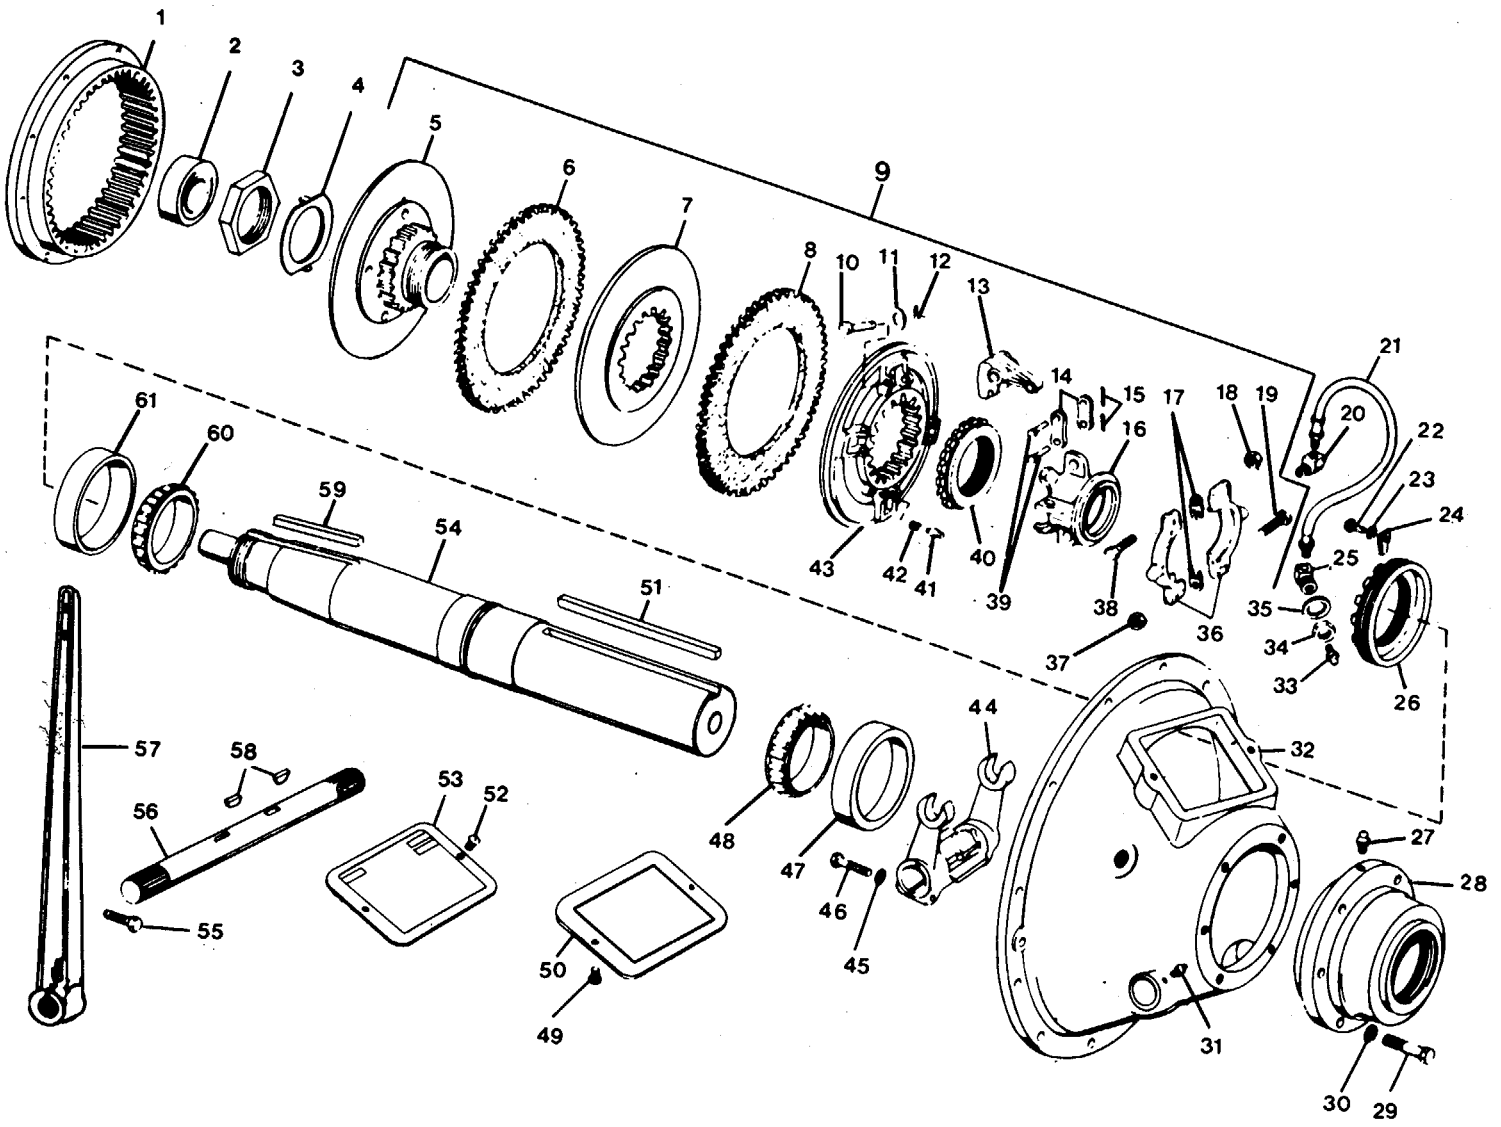

FIGURE 4-25. Friction Clutch (Power Takeoff) Assembly. (SP-2-14).
**DISASSEMBLY.** (Refer to FIGURE 4-25 for reference numbers.)
- a. Support the clutch housing (32) on a work bench with wooden blocks. Have the clutch end facing upward.
- b. Use a standard bearing puller, and remove the pilot bearing (2) from the clutch shaft (54).
- c. Remove the jam nut (34) and lockwasher (35) from the hose fitting (25) located in the clutch housing (18). Push fitting (25) and hose (21) into the clutch housing (32).
- d. Straighten the bent portion of the hub nut lockwasher (4) from the hub nut (3). Remove the hub nut (3) and the lockwasher (4) from the clutch shaft (54).
- e. Use a conventional gear puller with threaded legs for 5/8-11 tapped holes to pull the clutch assembly (9) from the clutch shaft (54). Install the puller so the threaded legs screw into the holes provided in the hub and back plate (5) and the jack screw exerts force on the end of the clutch shaft (54). Remove the shaft key (23). Remove the puller and the clutch assembly (9) from the clutch shaft (54).
- f. Set the clutch assembly (9) on a bench with the sliding sleeve assembly (16) end facing upward. Remove the hydraulic (grease) fitting (33) from the hose fitting (25). Remove the hose (21) from the hydraulic (grease) fitting (20). Remove the hydraulic (grease) fitting (20) from the split collar assembly (36).
- g. Straighten and remove the four cotter pins (12) from the headed pins (10). Remove the four headed pins (10) from the levers (13) and the floating plate (43). Remove the two spring washers (11) at each lever location, and remove the levers (13), sliding sleeve (16), and collar (36) groups from the floating plate (43) and adjusting ring (40) as an assembly.
- h. Straighten and remove the eight cotter pins (51) from the headed pins (39). Remove the headed pins (39), lever links (14), and levers (13), and the collar halves (36) from the sliding sleeve (16). Remove screws (19) and nuts (37) to separate collar halves (36) and to remove shims (17).
- i. Depress the adjusting lock pin (41) with a screwdriver, and unscrew the adjusting ring (40), removing it from the hub of the back plate (5). Remove the adjusting ring lock pin and spring (42) from the floating plate (43).
- s. Use bearing puller and remove the bearing cones (48 and 60) from the clutch shaft (54). The bearing cones (48 and 60) remove in opposite directions from the shoulder machined on the clutch shaft (54).
- t. Two small (5/16-inch) holes are provided in the bearing carrier (28) for removal of the bearing cup (47). Use a straight blunt punch through these holes and tap the bearing cup (47) out of its bore. Remove the cup (47) only if replacement of the part is necessary.
- u. Remove the hexhead capscrew (55) that secures the hand lever (57) to the operating shaft (56). Remove the hand lever (57) from the operating shaft.
- v. Set the clutch housing (32) on the bench with the clutch end facing upward. Remove two hexhead capscrews (46) and lockwashers (45) from the throwout yoke (44). Gently tap one end of the operating shaft (56), and roll out the exposed Woodruff key (58). Repeat this procedure and remove the remaining Woodruff key (58). Remove the operating shaft (56) and throwout yoke (44) from the clutch housing (32).
- c. Check all parts of the PTO unit. Replace internal gear (1) and annular Ball Bearing (2).
**ASSEMBLY** (Refer to FIGURE 4-25)**NOTE**